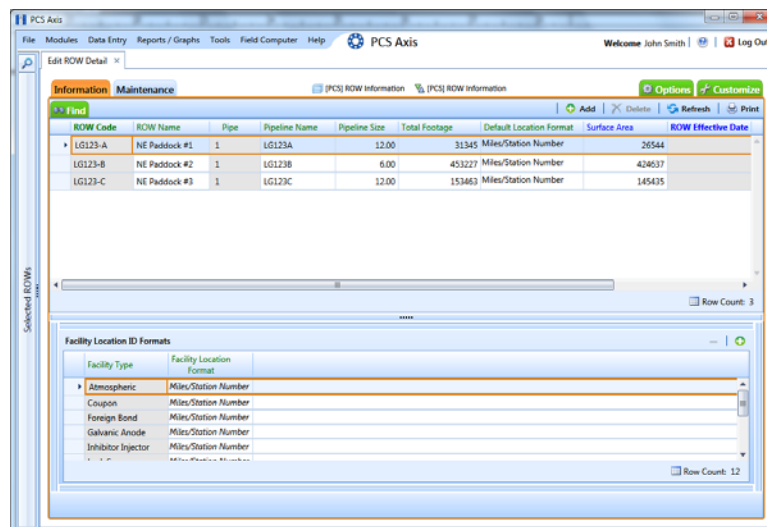

Figure 3-20. Edit ROW Detail
- 2 Click **Data Entry > Edit ROW Detail** to open the *Edit ROW Detail* window. If you want to collapse the *Selected ROWs* panel to view more of the *Edit ROW Detail* grid, click **Selected ROWs**. To expand the panel, click **Selected ROWs** again (Figure 3-20).
- 2 Click **Data Entry > Edit ROW Detail** to open the *Edit ROW Detail* window (Figure 3-20, page 110).
- 2 Click **Data Entry** > **Edit ROW Detail** to open the *Edit ROW Detail* window (Figure 3-20, page 110).